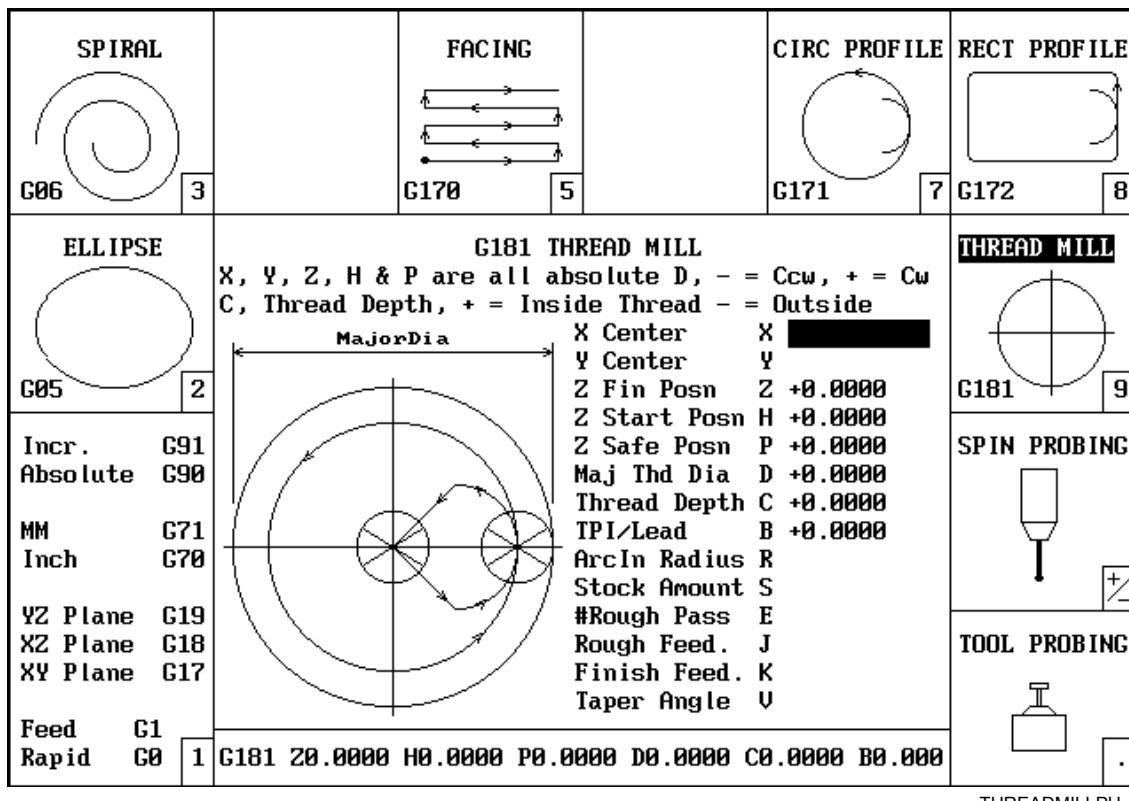

Figure 5-20, Thread Mill Pop-up Menu
1. In Edit mode, press **Help (F1)**, select **PATHS** from the menu, then **THREAD MILL** to display the G181 Thread Mill pop-up menu (refer to Figure 5-20).
Depending on the parameters used and their values, when cutting a thread, the tool can ramp into the cut as illustrated in Figure 5-20. See Table 5-28, G181 Address Words.